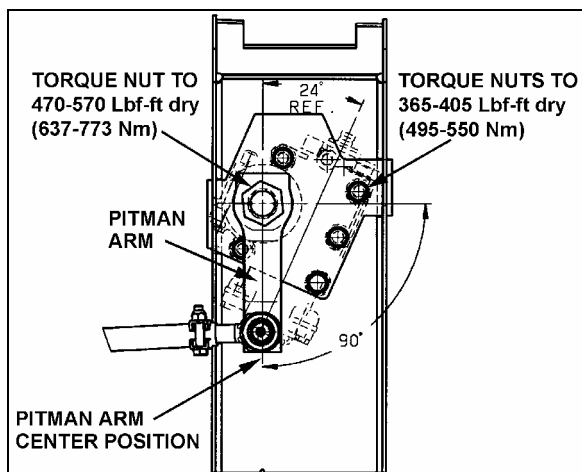

FIGURE 9: PITMAN ARM ALIGNMENT
| FIGURE 9: PITMAN ARM ALIGNMENT..... | 7 |
2. Afterwards, the pitman arm should be adjusted with reference marks aligned or to an angle of 90° in relation with the horizontal axis (Fig. 9).